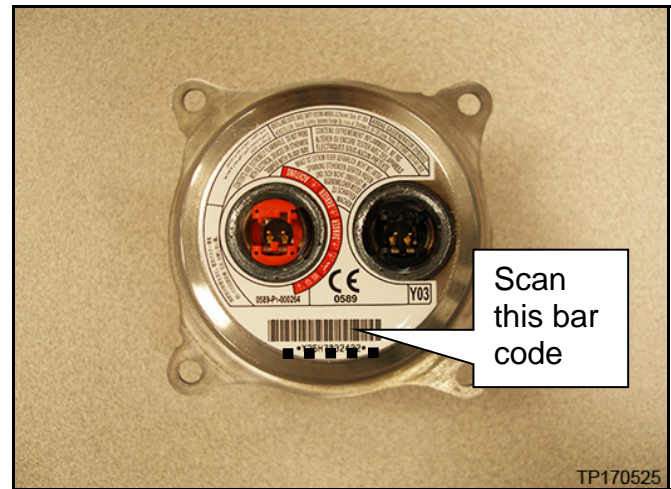

Figure 6
6. Use the quick scan tool to scan the bar code (serial number) on the new air bag inflator (see Figures 6 and 7).